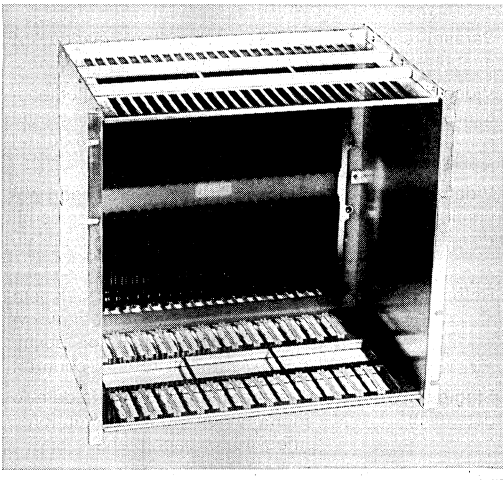

Figure 3. VC-5770 Vertical CRT Chassis Unit
**Vertical CRT Chassis** — The VC-5770 (as shown in Figure 3) is a 24-slot chassis used for a combination of in-5770 CRT refresh memories and custom control interface card mounted vertically. The UT-5770 utility card may also be used with the in-5770 to provide custom logic. Power supplies and cooling fans are not included.